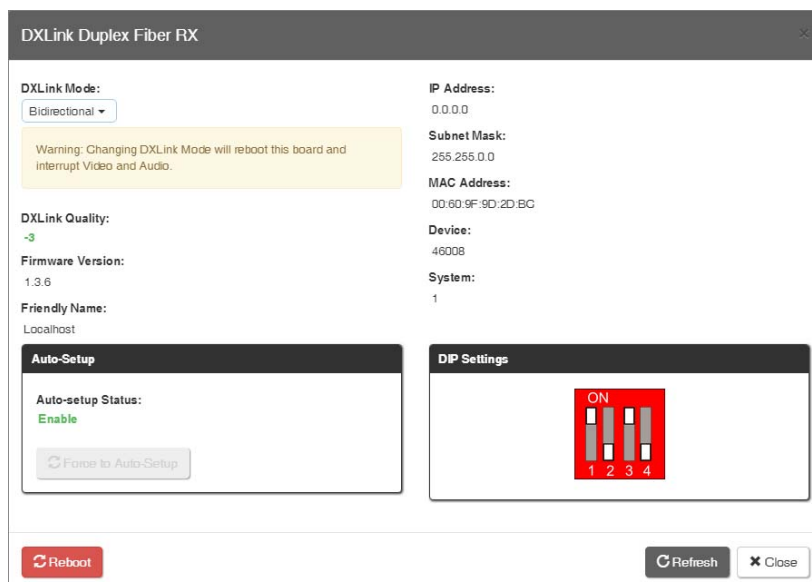

FIG. 110 DXLink (Twisted Pair or Fiber) Receivers
- DXLink Details button – click to display additional settings for the DXLink Receiver (FIG. 110).